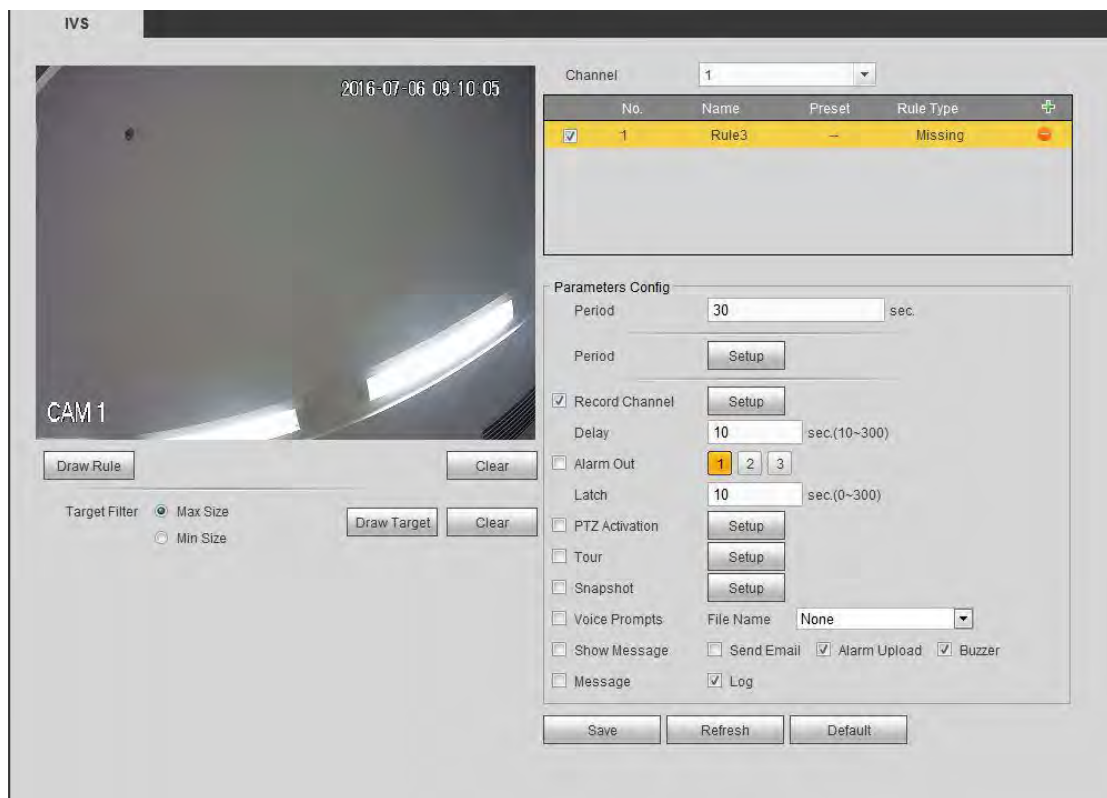

Figure 5-84
Step 2 Check the missing object detection to enable missing object detection function. See Figure 5-84.